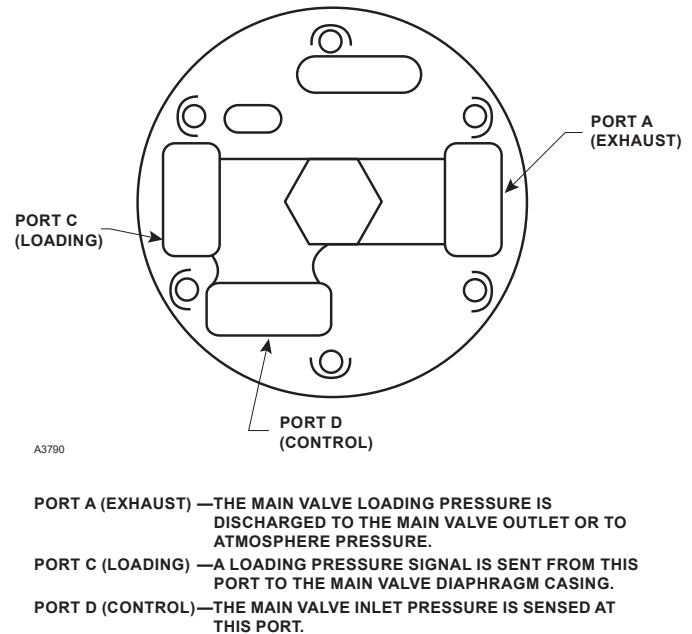

Figure 7. Pilot Port Functions
4. A relief valve always must be installed so that the pilot will exhaust properly and into a safe place. The pilot spring case vent must be kept open to atmospheric pressure. Protect this vent from icing, moisture or other blockage as required. If the pressed-in vent assembly (key 27, Figure 12 or 13) remains in the pilot exhaust port (connection A, Figure 7), it must be pointed down if possible or otherwise protected.